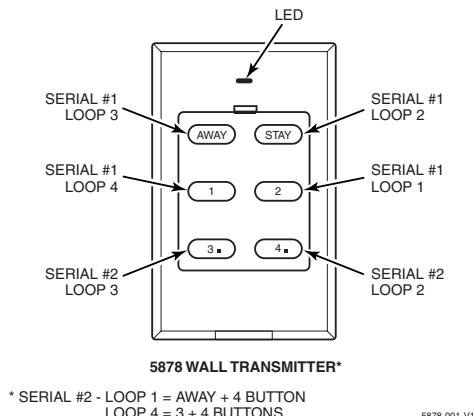

Figure 1 - 5878 Button Designations
The 5878 is assigned two unique serial numbers during manufacture and each button, or button combination on the unit also has a distinct "loop" number (refer to Figure 1) that must be programmed into the control panel during installation. Assign each button, or button combination, to one of eight individual zones and designate the Input Type as "BR" (Button Type RF).
2. To sync the transmitter with the receiver, simultaneously press and hold the AWAY, STAY, 1, and 2 buttons until the panel beeps (see Figure 1). For LYNXR Series controls proceed to step 4.